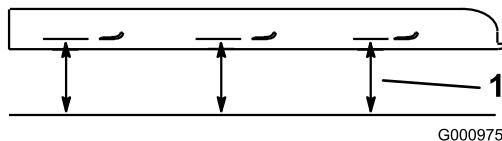

Figure 55
14. The right blade at the front position (Figure 54 or Figure 55) needs to be the same height as the left blade at the front position.
3. Rotate the blades until the ends face forward and backward (Figure 54 or Figure 55). Measure from a level surface to the cutting edge at position **A**, of the blades (Figure 54 or Figure 55). Note this dimension.